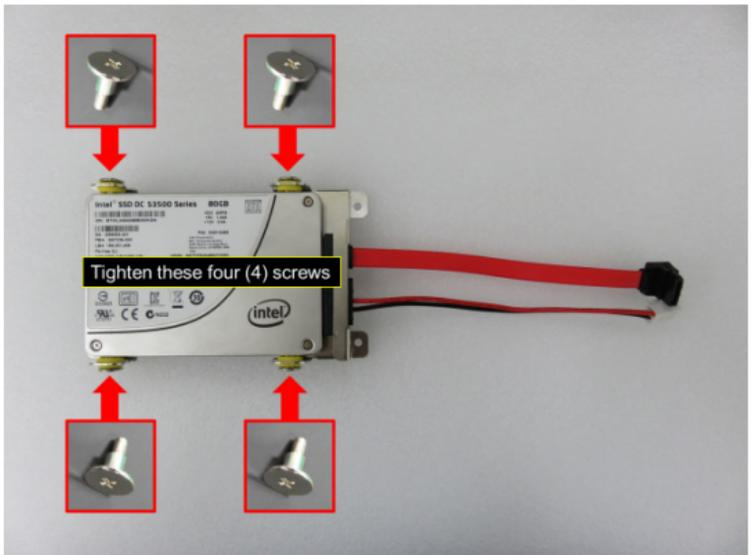

Figure 25
- 4.2.2.8 Use a Phillips screwdriver (item 1 in Table 2) to tighten the screws (4 nos.) to secure the SSD/HDD to the tray as shown in Figure 25.